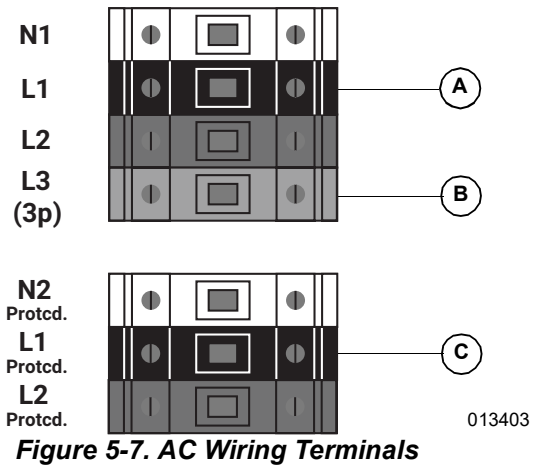

Figure 5-7. AC Wiring Terminals
See Figure 5-7. The installer is responsible for installing 40 A overcurrent protection for wiring to AC Grid Connection Terminals (A). The conductors shall be sized in accordance with NEC Article 705 for the utility power interconnection. All other conductors in the system shall be sized in accordance with NEC Article 310 and all other applicable NEC Articles.
- See Figure 5-7. The PWRcell Inverter is equipped with four AC grid connection terminals and three protected loads terminals.
- Use the top four terminals (A) for connection to the utility grid.